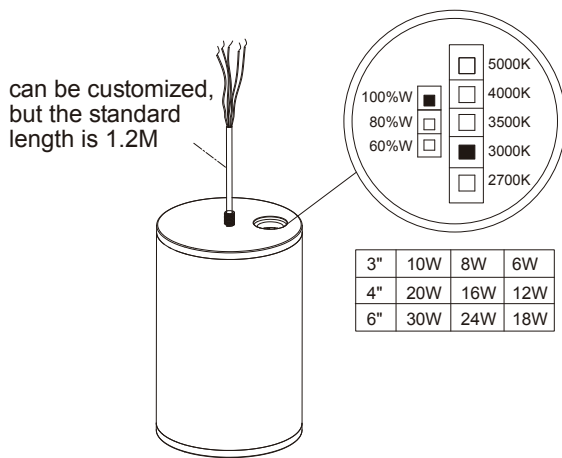

Fig 1
1. Adjust the length of the wire according to the actual needs. Select CCT and power according to therequirements. (Fig 1)